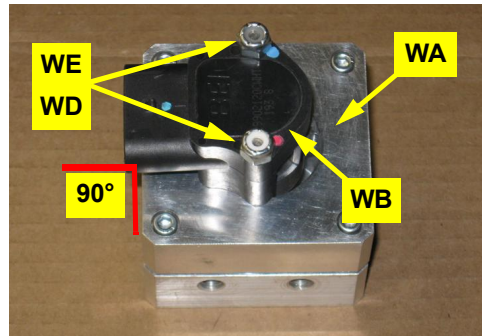

Figure 1a: Prepared WAS housing/connector
- a. Using the provided hardware **WE** (nuts) and **WD** (bolts - not visible), attach the WAS wire connector **WB** to the WAS housing **WA**. Install the bolts up through the bottom of the housing. The WAS wire connector **WB** can be mounted 90° to any of the WAS housing **WA** sides (Figure 1a).
- a. Locate the lower steering column shroud (it partially encloses the steering shaft and has a slot for the tilt pedal). Use the left side forward-pointing corner of the shroud (Figure 1a - circled) as the measurement reference point in steps c and d.
Figure 1a with inset: Switch bracket mounting location - see step c
- c. Using the bent, drilled bracket SC as a template, drill a 5/32" hole in the shroud 2 1/2" up from its corner (Figure 1a inset).